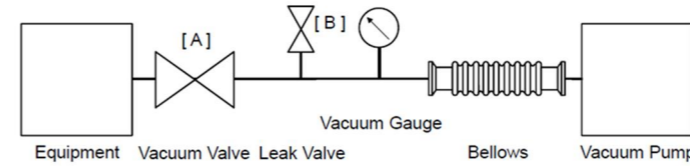

Fig.7 Connection with Vacuum System for PVD-180-H, -360-H
- 5) Installation of a vacuum valve and a leak valve between the equipment and the vacuum pump is required for PVD-180-H and PVD-360-H as shown in Fig.7. When the pump stops, shut the vacuum valve [A] to keep the equipment in vacuum, then open the leak-valve [B] and let air into the pump to prevent from counter-flow of the rotary vacuum pump oil in the pump. PVD-180-H, PVD-360-H